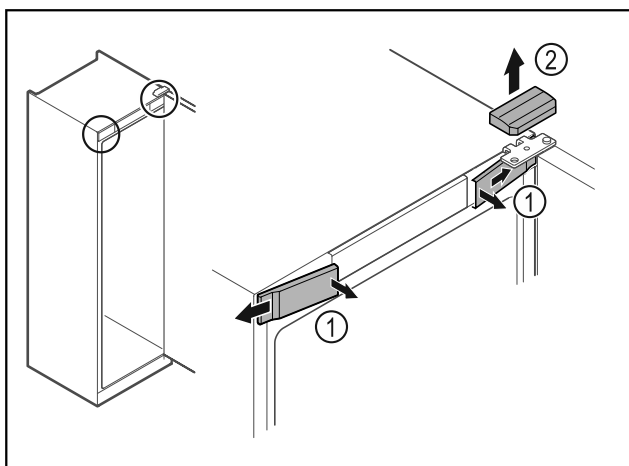

Fig. 8\*
- ▶ Unlatch the front covers Fig. 8 (1) on the inside and remove them sideways.\*
- ▶ Lift off the upper cover Fig. 8 (2).\*